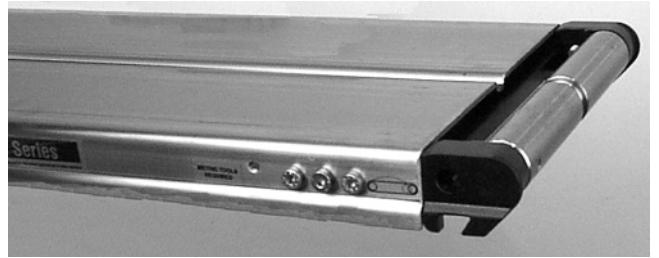

Figure 5
2. Compress tension end (Figure 5). Refer to steps 3, 4 & 5 under the “Belt Removal for Conveyor Without Gearmotor Mounting Package or Stands” on page 9.